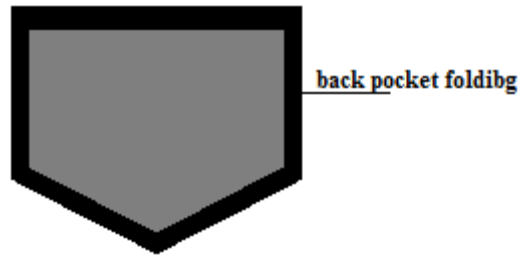

Fig. 5:3 back pocket fold
3. Stitch the pasted pocket around leaving pocket opening at the top and lock the seam at start and ending point (*refer fig 5:5 I.*)